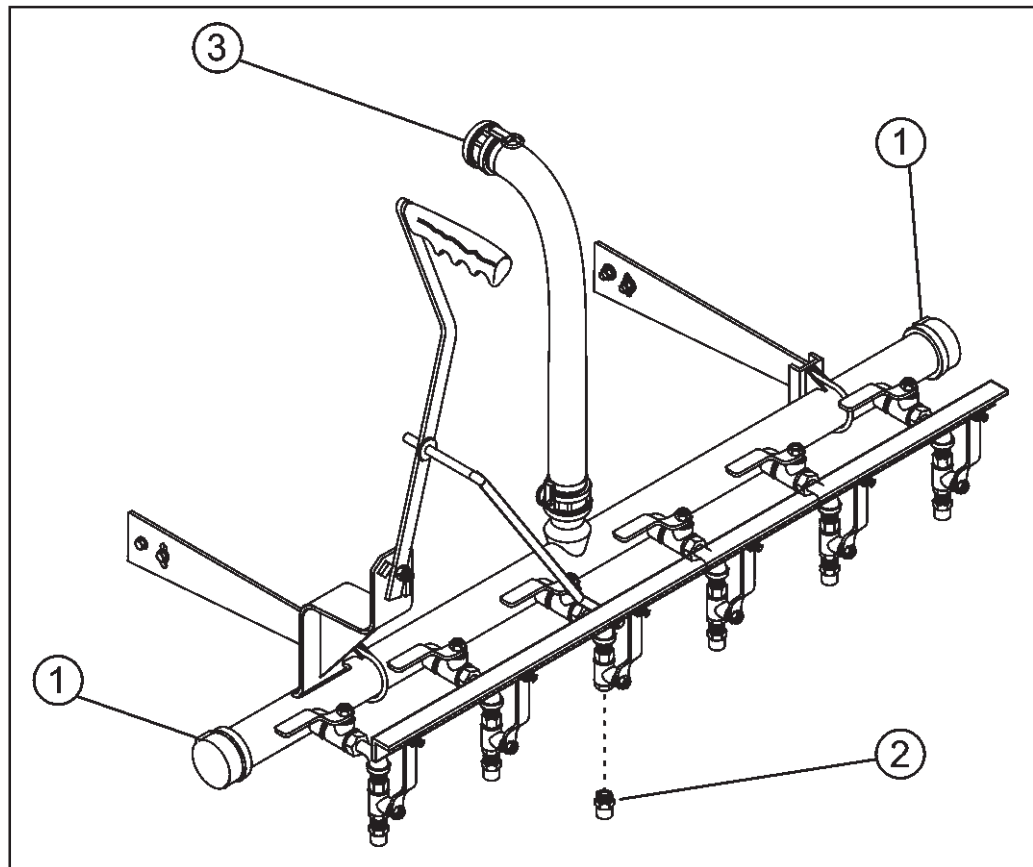

Figure 5-11
6. Remove the spray bar, spray bar hose (3, Figure 5-11), and brackets from the machine. Remove the end caps (1, Figure 5-11) and the spray nozzles (2, Figure 5-11). Clean the nozzles and store in a safe place. Using a garden hose flush water through the spray hose, then the spray bar, making sure water flows from the nozzle openings. When the water runs clear, allow the bar to drain thoroughly. Replace the end caps. Store the spray bar, nozzles, hose, and brackets in a safe place. Make sure that ball valve #3 is closed.